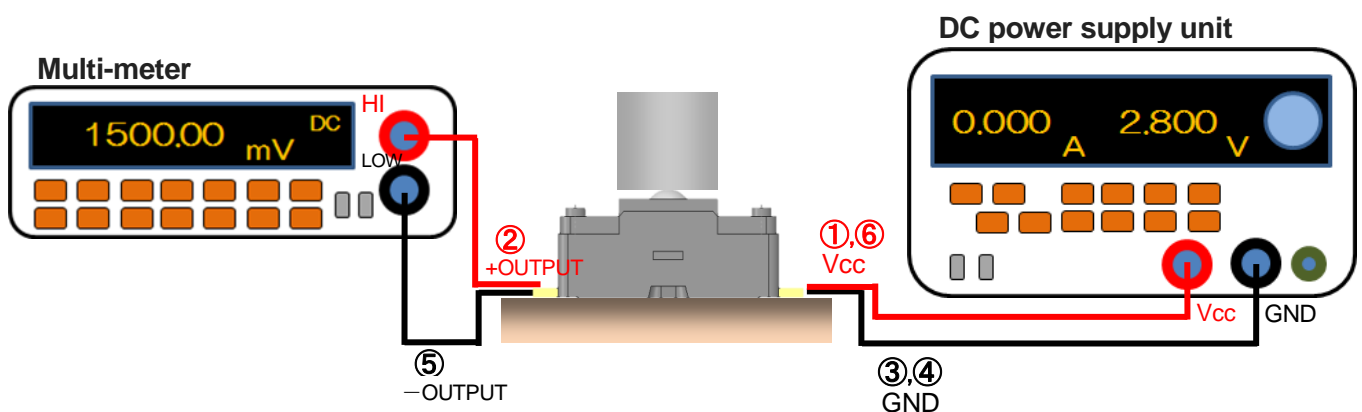

Fig3. Evaluation method with HFD-500
- ・When evaluating with only this sensor, please perform measurement by wiring as shown in Fig3.